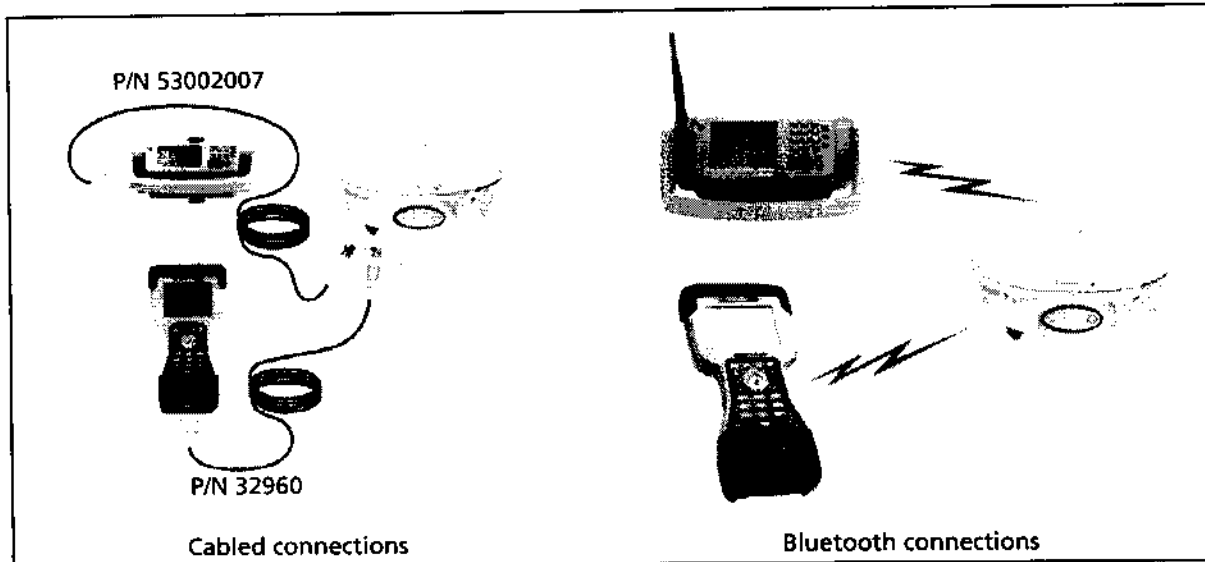
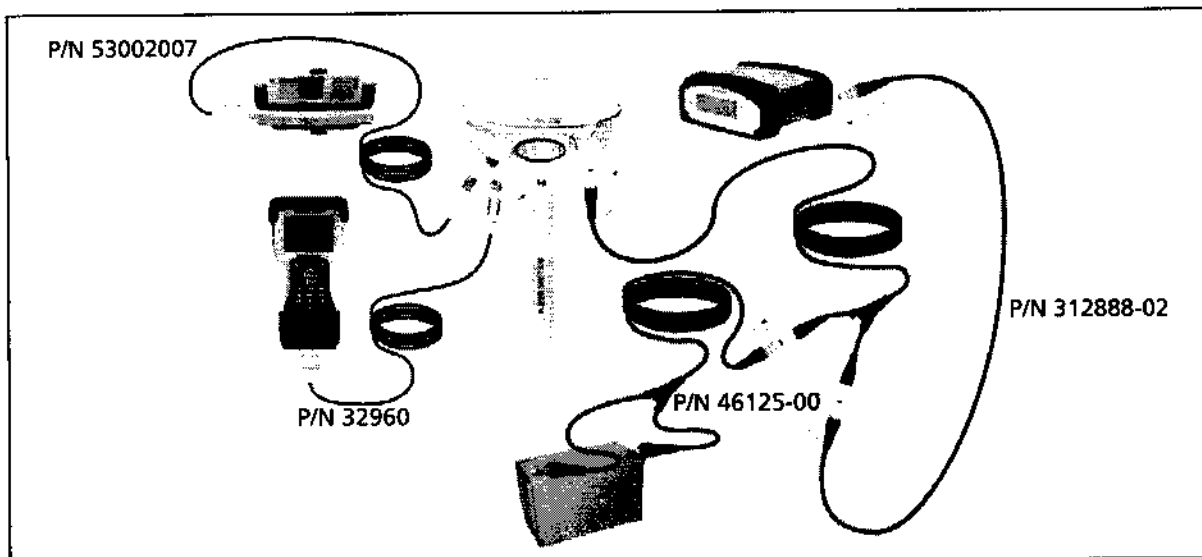

Figure 5.6 Connections for a rover SPSx80 setup, a TSC2 or TCU controller, and a 450 Mhz base station
Figure 5.7 Cabled connections for an SPSx80 setup, a TSC2 or TCU controller, and a 900 Mhz base station (with external power)
3. The SPSx80 and controller communicates through Bluetooth wireless technology. However, if a cable is required, connect the cable between the controller and receiver (see Figure 5.6 through Figure 5.7).